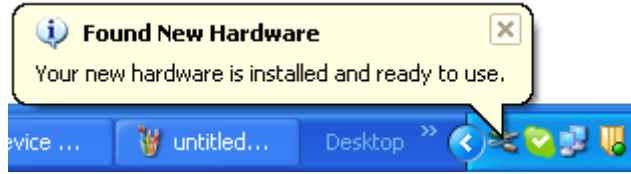

Figure K-20. Installation of USB Composite device
Step 8. After successful installation, the host indicates that the device is ready to use as shown in Figure K-20.